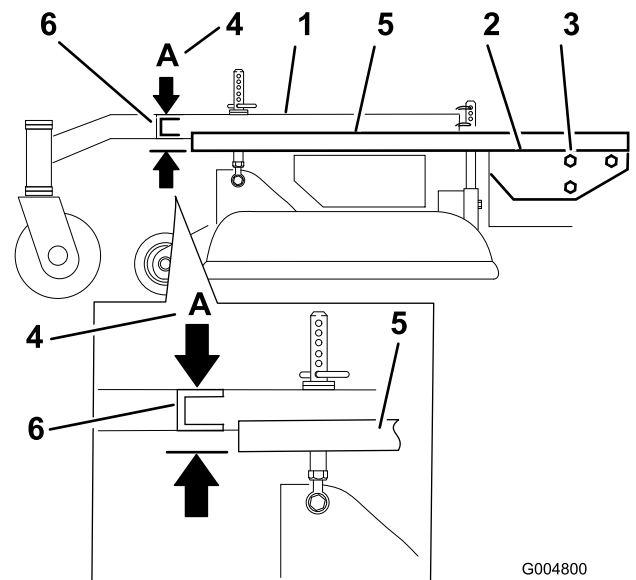

Figure 54
3. Place a long straight edge on top of the engine deck as shown in Figure 54.
4. At the carrier frame cross channel, measure the height at location A (Figure 54). This measurement must be 1-5/16 inch (33 mm), plus or minus a 1/4 inch (6 mm).
6. Loosen the carrier frame mounting bolts on both sides of the machine (Figure 54).
7. Align the carrier frame and engine deck to match 1-5/16 inch (33 mm), plus or minus a 1/4 inch (6 mm) at location A (Figure 54).